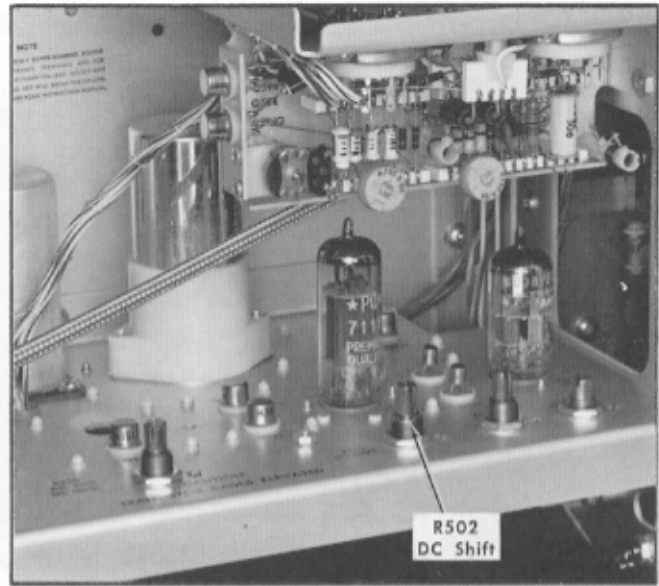

Fig. 6-38. Location of DC Shift adjustment R502.
- c. Adjust the DC Shift R502 (Fig. 6-38) for minimum waveform tilt.